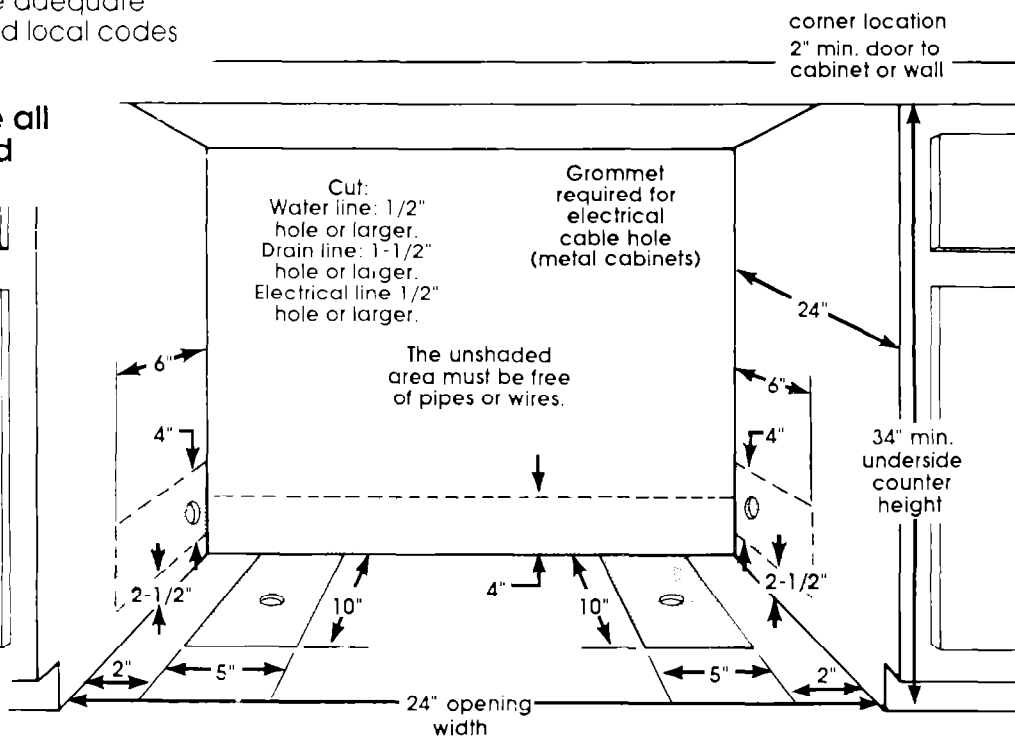

Figure 1
1. Have a 3-prong, grounding-type, wall receptacle available or installed by a qualified electrician on the rear wall of one cabinet next to dishwasher opening. (See Figure 1, Panel A.)